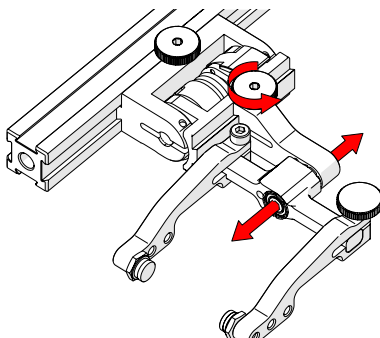

Fig. 116 - Adjust swing arm
3. Use swing arm knob to position the swing arm (Fig. 116).